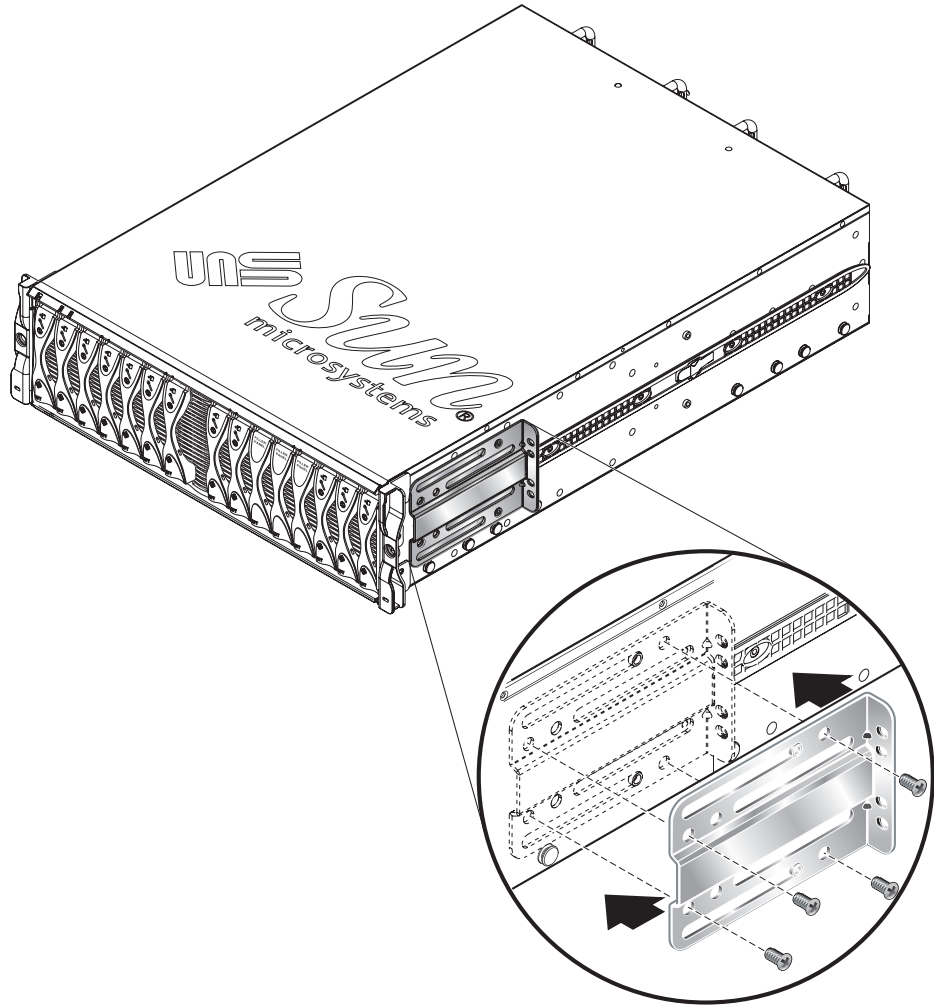

FIGURE 3-10 Attaching the Two-Post Front Brackets to the System Chassis (19-Inch, Two-Post Rack)
3. Attach the front brackets to the system chassis (FIGURE 3-10).